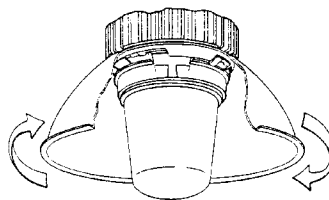

FIGURE 4
2. Rotate reflector clockwise so that the three tabs slide under captivating bosses on adapter ring. See figure 4.